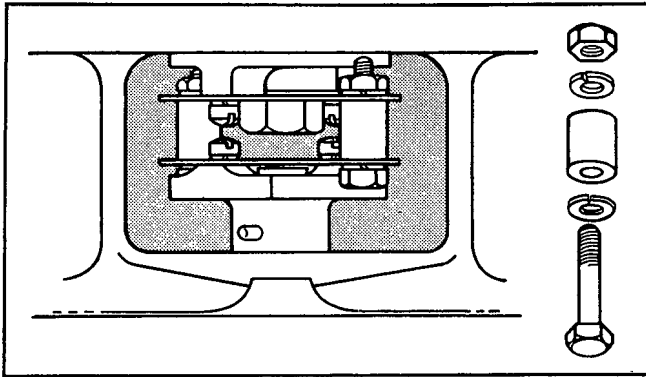

Figure 7-53. Disassembly of Universal Coupling
10. Loosen the two hex-head cap screws between the plates of the synchro-to-synchro drive gear coupling and remove the nuts, screws, and spacers. See Fig. 7-53.
(2) To remove synchro unit B-803, it is necessary to dis-assemble the universal coupling between the unit and the shaft of the HAND SLEW wheel. This disassembly of this coupling is shown in Fig. 7-53. The synchro unit is then removed from its supporting casting in the manner described in the immediately preceding paragraph.